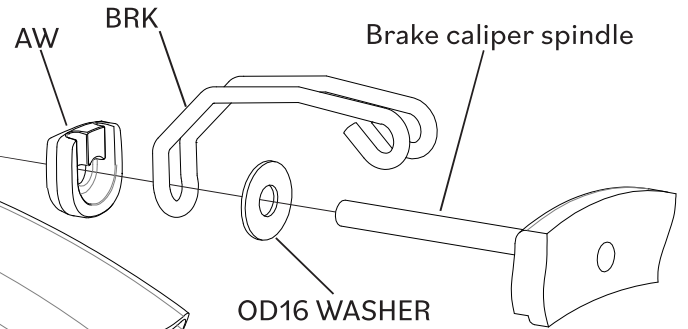

Fig. 3
Bikes without mudguard fitted requires a guide bracket (GB) to hold the rear loom off the tyre (fig. 3). Be sure to replace this when changing lamp brackets.